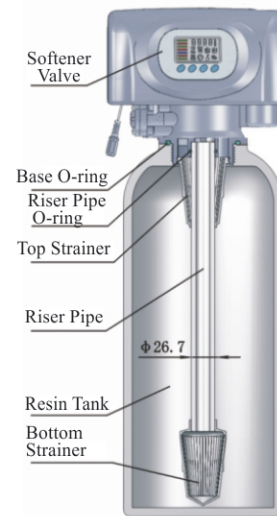

Figure 1-1
- ①The filter or softener should be located close to the drain.
- ②Ensure the unit is installed in enough space for operating and maintenance.
- ③Brine tank need to be close to softener.
- ④The unit should be kept away from heat sources, and not be exposed outdoors. Sunshine or rain will cause the system damage.
- ⑤Please avoid to install the system in the Acid/Alkaline, Magnetic or strong vibration circumstance, because above factors will cause the system disorder.
- ⑥Do not install the filter or softener, drain pipeline in surroundings where is below 5°C, or above 45°C.
- ⑦One place is recommended to install the system which cause the minimum loss in case of water leakage.
①Install control valve
a. As the Figure 1-1 shows, select the riser pipe with 26.7mm OD, glue the riser pipe to the bottom strainer and put it into the resin tank, cut off the exceeding tube out of tank top opening and make the top end of riser pipe rounded.